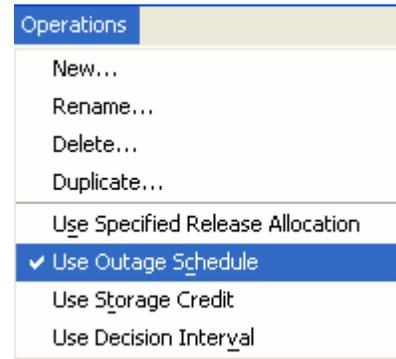

Figure 11.100 Reservoir Editor - Operations Menu, Use Outage Schedule
1. Select the **Operations** tab in the reservoir editor. From the **Operations** menu, select **Use Outage Schedule** (a check mark will appear as shown in Figure 11.100 to indicate that the Decision Schedule will be used).